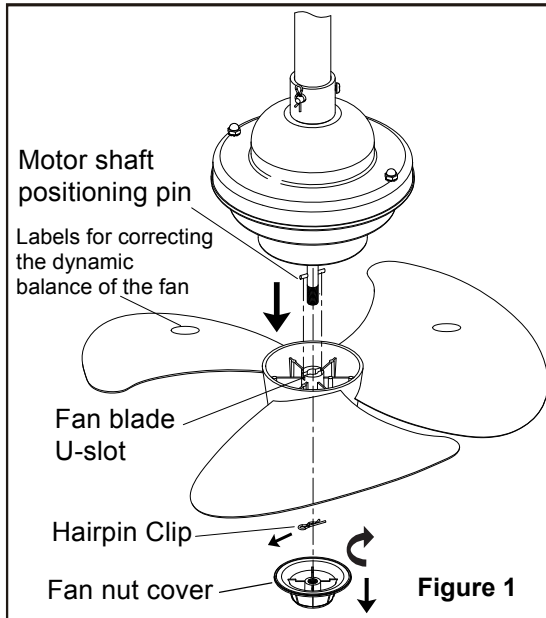

Figure 1
- **1. Installing Wall Holder:** (Figure 1)
Take out the fan nut cover clockwise, insert the screwdriver into the empty position of the hairpin, pull out the hairpin, and then take out the fan blade. (Figure 1)
Be careful not to tear off the balance stickers on the fan blades. The fan blades have been calibrated for dynamic balance, so as not to cause the lamp body to shake when the fan is running.(Figure 1)